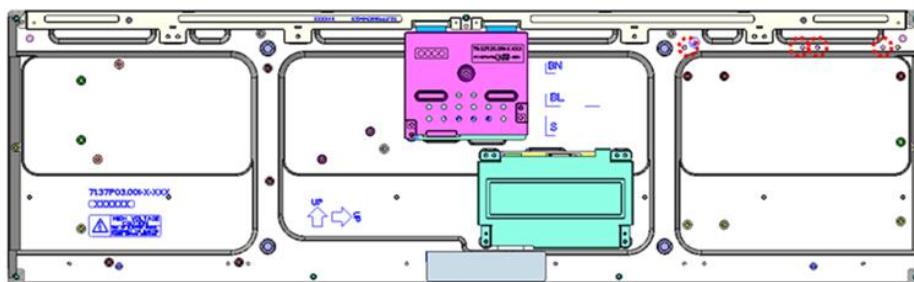

Figure 1
- (1) AUO module dust test is conducted with marked holes (see figure1, marked with red circle) sealed to comply with JIS D0207
- (2) Module users should design set with these holes used/sealed (if not used) or covered by set mechanism to prevent dust from entering. The AUO testing procedure cannot replicate all different real world scenarios, module users should apply set dust resistance solution to meet user’s requirement.